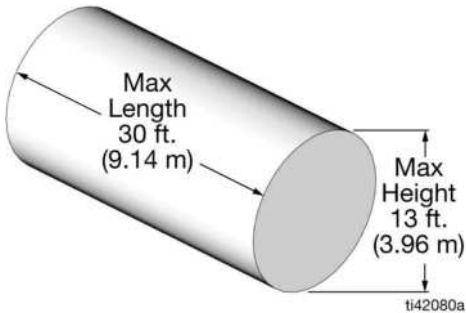

FIG. 1
- Maximum Volume = 999,999 gallons or liters. Tank end walls must be flat; they cannot be any other shape, including belled (FIG. 1). If needed, use a non-standard tank.